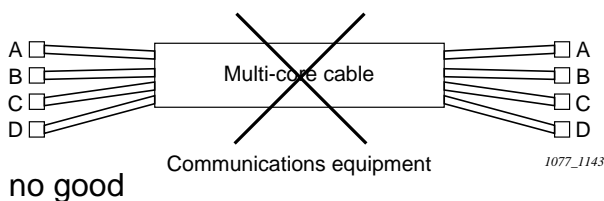

Fig. 2-3
4. Do not wire the signal lines of different equipment with multi-core cables. (Fig. 2-3)